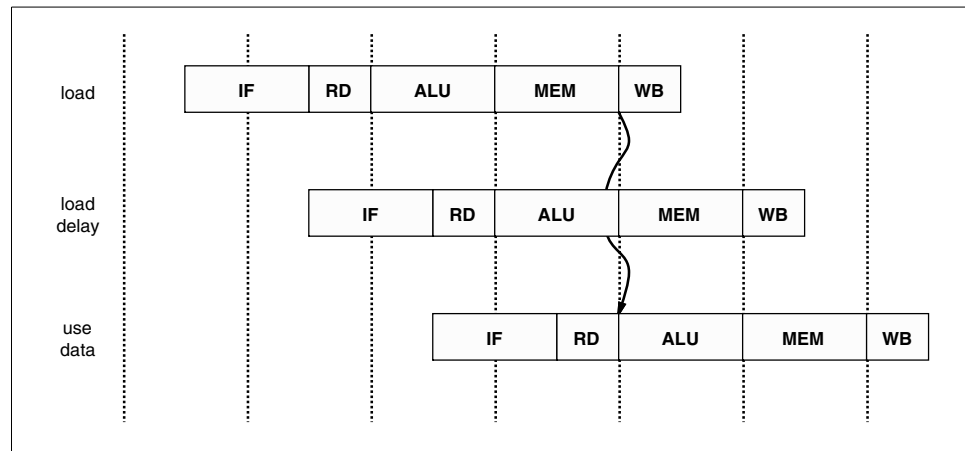

Figure 1.4 The pipeline and load delays
- ◆ *Load data not available to next instruction: another consequence of the pipeline is that a load instruction’s data arrives from the cache/memory system AFTER the next instruction’s ALU phase starts – so it is not possible to use the data from a load in the following instruction. See Figure 1.4 for the pipeline and load delays sequence. On the MIPS-1 architecture, the programmer must insure that this rule is not violated.*